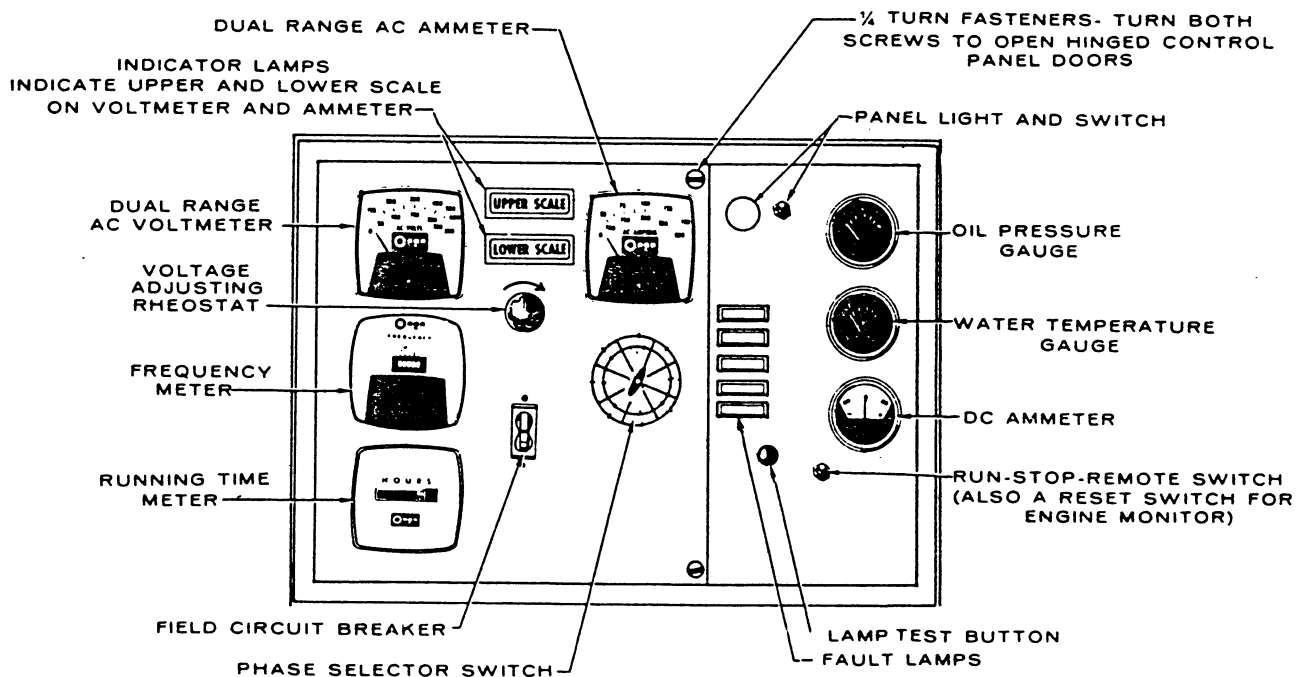

FIGURE 3. OPTIONAL CONTROL PANEL (FIVE FAULT LAMPS)
**Warning Lights:** Eliminates the one "Fault" light and substitutes five indicator (see Figure 3) lights to give warning of—